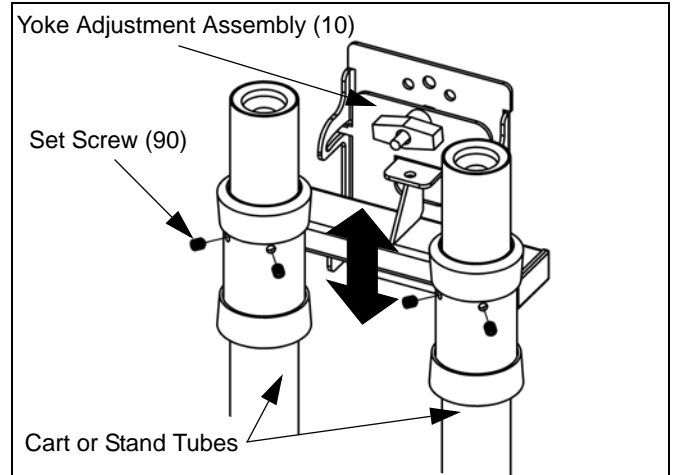

Figure 3: Adjust Height and Secure Yoke
2. Position yoke adjustment assembly (10) at desired height. (see Figure 3)
3. Secure yoke adjustment assembly (10) to stand of cart by tightening four 5/16-18 x 3/8" socket head set screws (90) using 5/32" Allen wrench (100) provided. (see Figure 3)